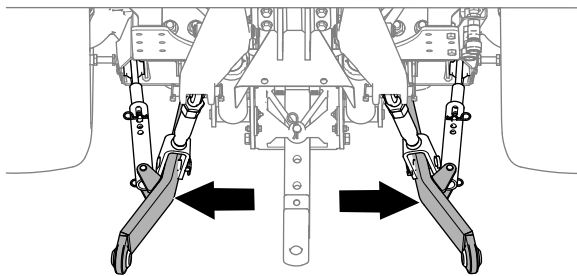

Figure 15
2. Adjust the lower-link arms (Figure 15) outward fully; refer to the operator's manual for the traction unit.